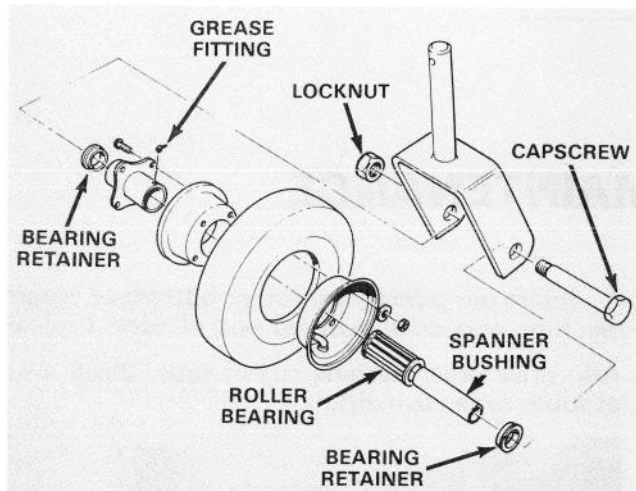

Figure 10
1. Remove locknut from capscrew holding castor wheel assembly between castor fork (Fig. 10). Grasp castor wheel and slide capscrew out of fork.
**Note:** Account for the two bearing retainers (Fig. 10).
2. Tip wheel to the side and allow roller bearing and spanner bushing to fall out (Fig. 10).
6. Pump more grease through grease fitting on wheel (Fig. 10) until bearing is greased thoroughly.